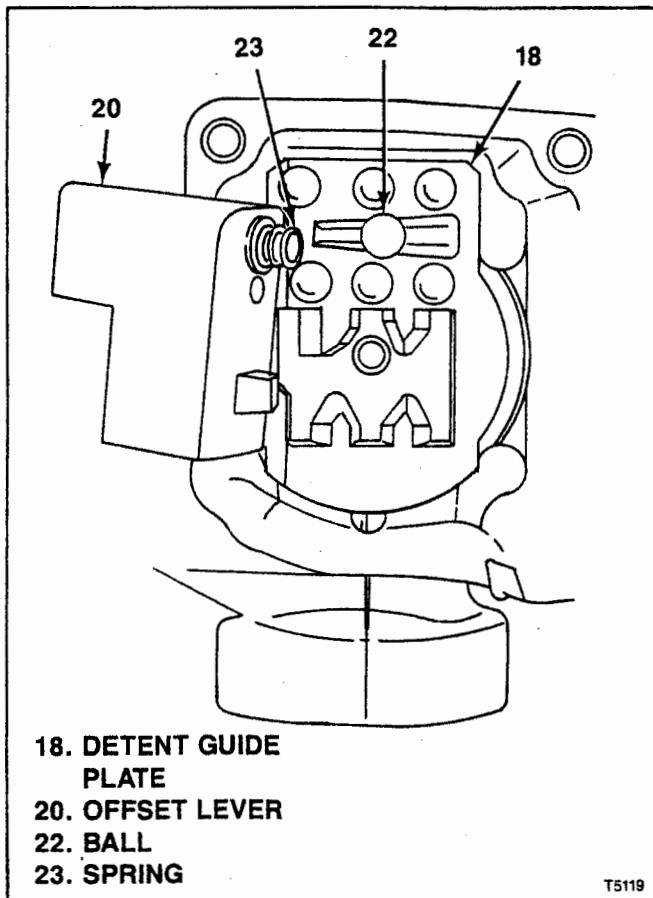

Figure 6-20. T5 WC Ball in 3rd-4th Position
f. Position ball (22) in 3-4 position in detent guide plate (18) (see figure 6-20).
g. Insert spring (23) in offset lever (20). Use petroleum to hold in place.
h. Position offset lever (20) (with spring) in extension (17A) or adapter (17B), engaging open end of spring (23) on ball (22) and push down on offset lever to compress spring slightly. Holding offset lever with one hand, pick up extension or adapter with the other and move parts into position at rear of transmission. Guide offset lever over end of shifter shaft (29) while moving extension or adapter up against rear of transmission case (117).
i. Install bolts (16) and torque to 23 lb-ft (30 Nm).
j. Align pin holes in offset lever (20) and shifter shaft (29) and drive in roll pin (15).